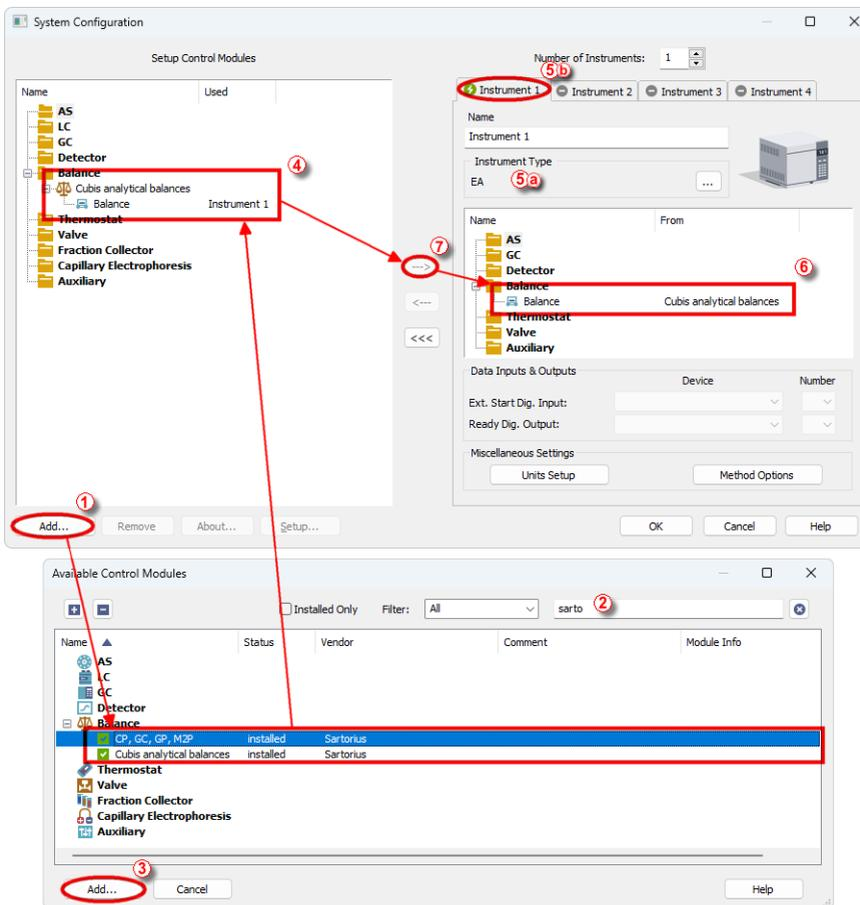

Fig. 2: How to add Sartorius balances
- Press the **Add** button (1) (see Fig. 2 on pg. 4.) to invoke the **Available Control Modules** dialog.
- You can specify the searching filter (2) to simplify the finding of the driver.
- Select the **Sartorius** balances and press the **Add** (3) button.